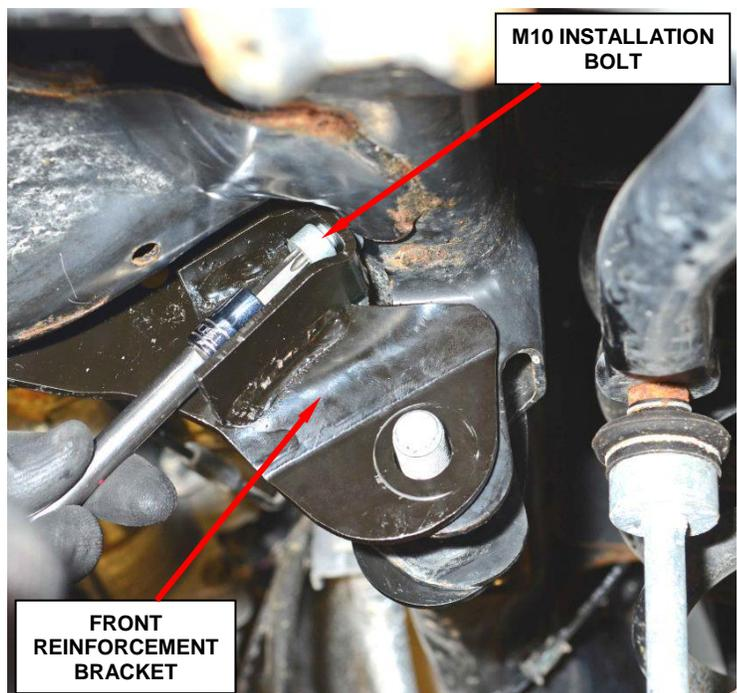

Figure 15 – Crimp Riv-Nut with M10 Installation Bolt
21. Tighten the M10 installation bolt on the riv-nut to 27 ft. lbs. (37 N·m) to crimp the riv-nut (Figure 15).